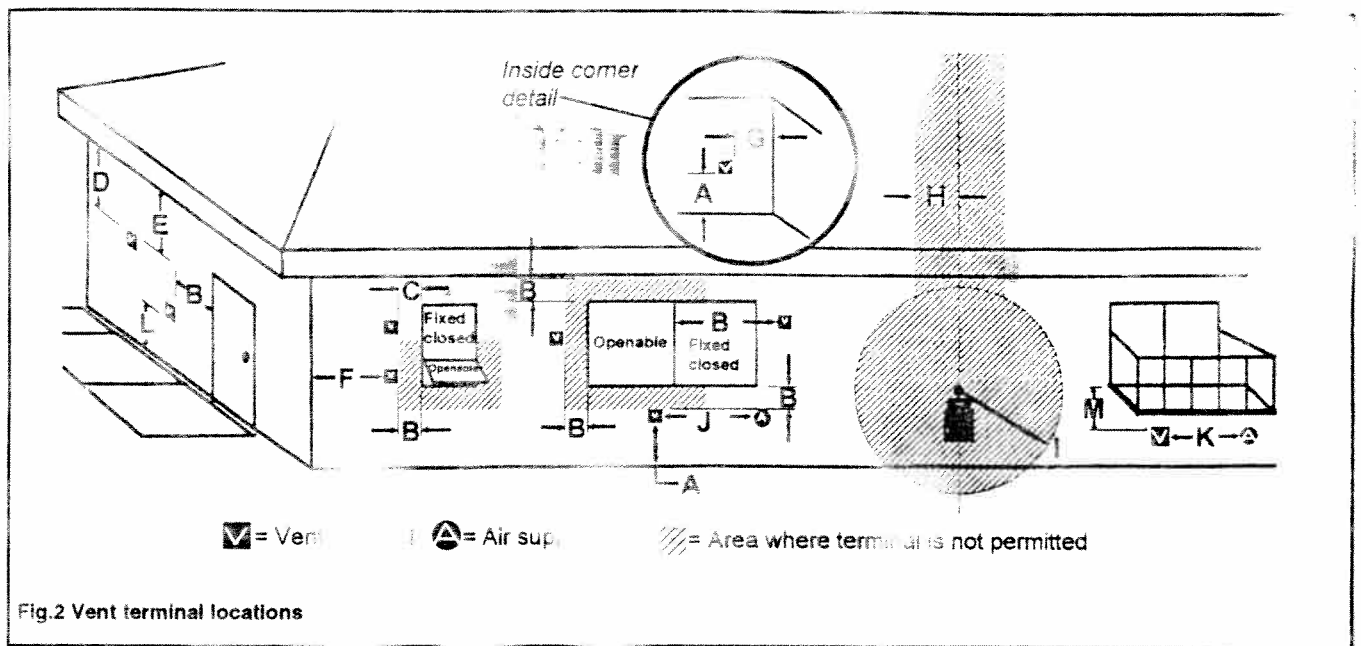

Fig.2 Vent terminal locations
- 4.7 This direct vent appliance is designed to operate when an undisturbed air flow hits the outside vent terminal from any direction. The minimum clearances from this terminal which must be maintained are shown in figure 2. Any reduction in these clearances could result in a disruption of the air flow or a safety hazard. Local codes regulations may require greater clearances.